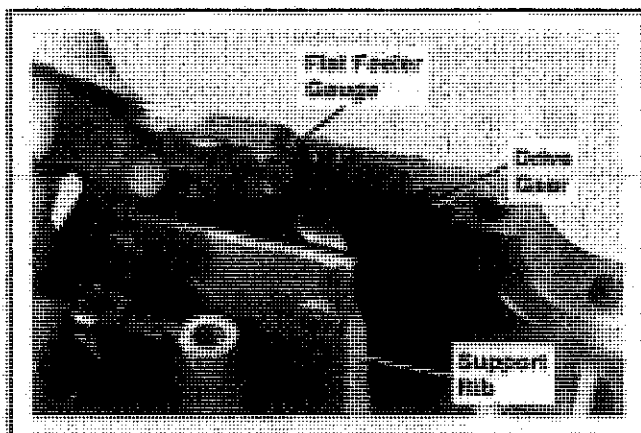

Figure 11-3. Measuring Oil Pump Drive Gear End Play.
4. Measure pump drive gear end play with a flat feeler gauge. Refer to Figure 11-3. Recommend end play is  $.010/.029$ ". Add one (1) additional shim spacer, if necessary, to bring end play within range.